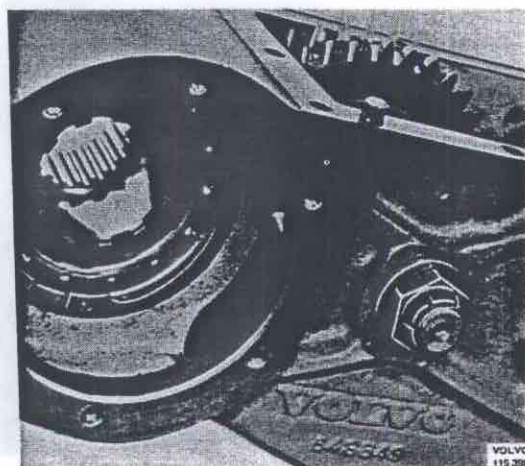

Fig. 43-149. Circlip cluster gear, nut, intermediate gear
7. Remove the nut on the intermediate gear shaft, Fig. 43-149. (If necessary use a shift spanner as counterhold.)
8. Remove the circlip for the cluster gear bearing, Fig. 43-149. Place the auxiliary gearbox in a press with the rear part of the box resting on the press table. Check that the bearing for the output shaft runs freely. Use a drift with the same